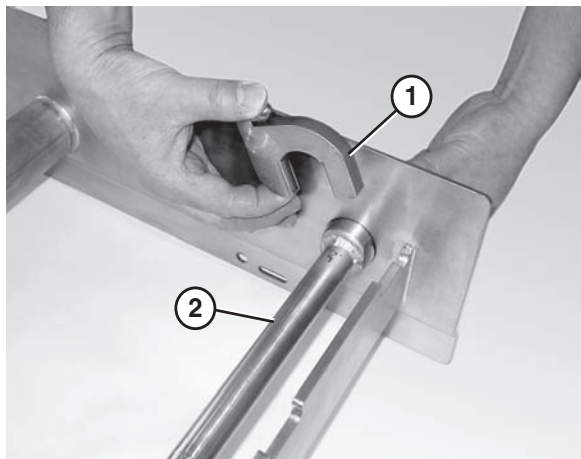

Figure 20
2. Attach the key stops (**Figure 20, item 1**) to the tip up shaft (**Figure 20, item 2**). The rounded end of the key stop should face the tail.